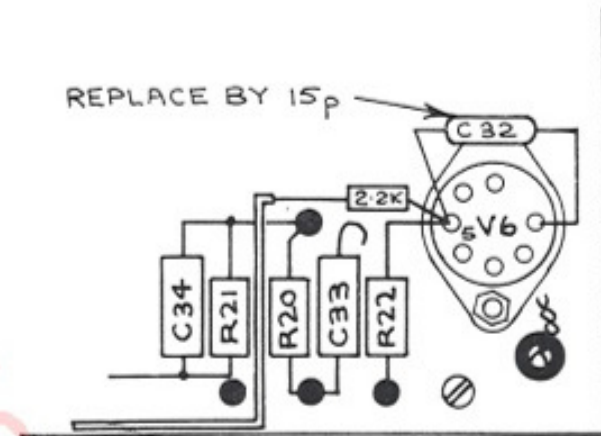

FIG 2.
- (1) Disconnect capacitor C33 ( $.04\mu$ ) from pin 5 of valve V6 (6AL5). If this component is left in position the lead wire should be placed so that accidental contact cannot be made with any other part of the circuit. Replace C32 (47p) by a capacitor of 15p.
- (2) Remove the Brown audio lead from the pillar tag at the junction of resistors R20 (220K), R21 (100K) and capacitor C34 (1000p).
- (3) Connect the Brown audio lead via a 2.2K resistor (Dubilier BTT or equivalent) to pin 5 of valve V6 (6AL5). Keep the resistor close to pin 5 (see fig 2).